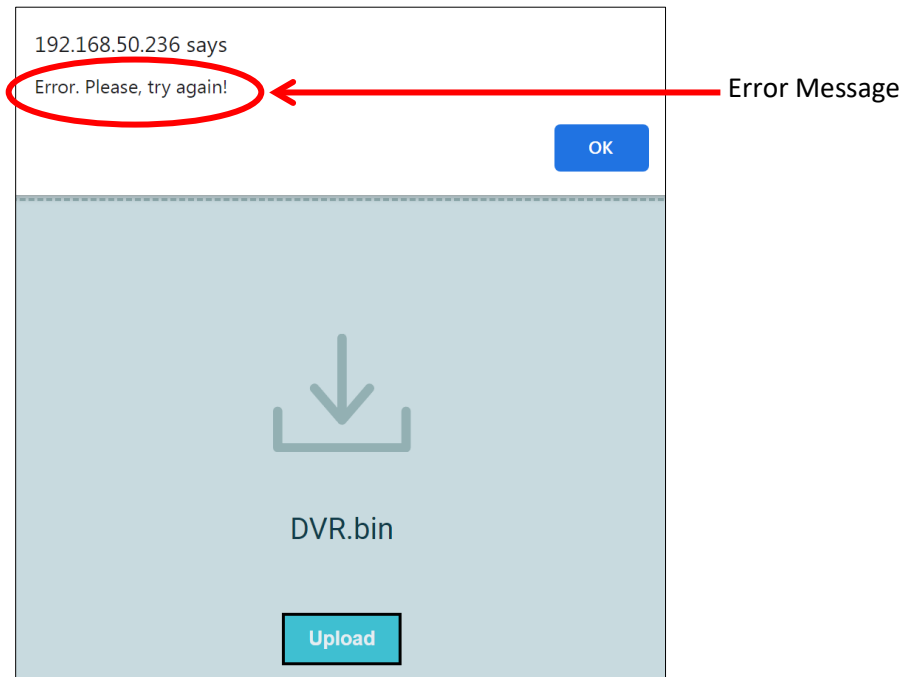

Figure 20: Unsuccessful Upload Error Message
14. There is no confirmation of a successful upload on the web page; however, if the upload fails, the web page will display an error message. See **Figure 20**. Errors may occur if the DVR has lost its Wi-Fi connection or has powered off during the upload.